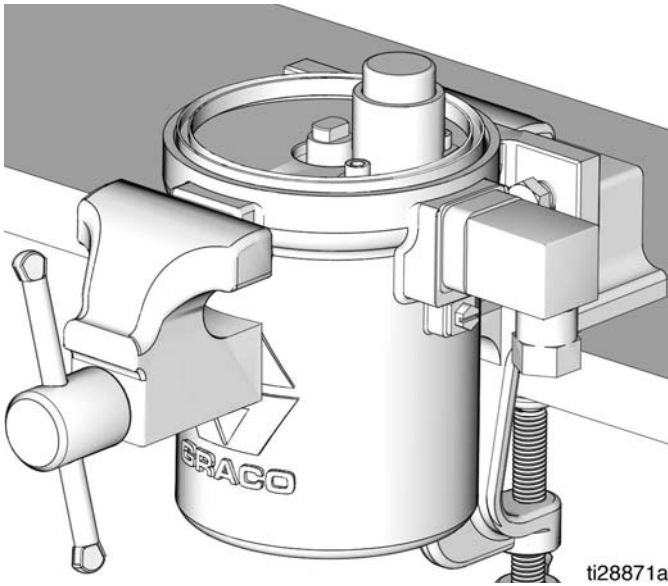

FIG. 36
12. Reposition air motor cylinder in vise to access the top of air motor cylinder as shown in FIG. 36.